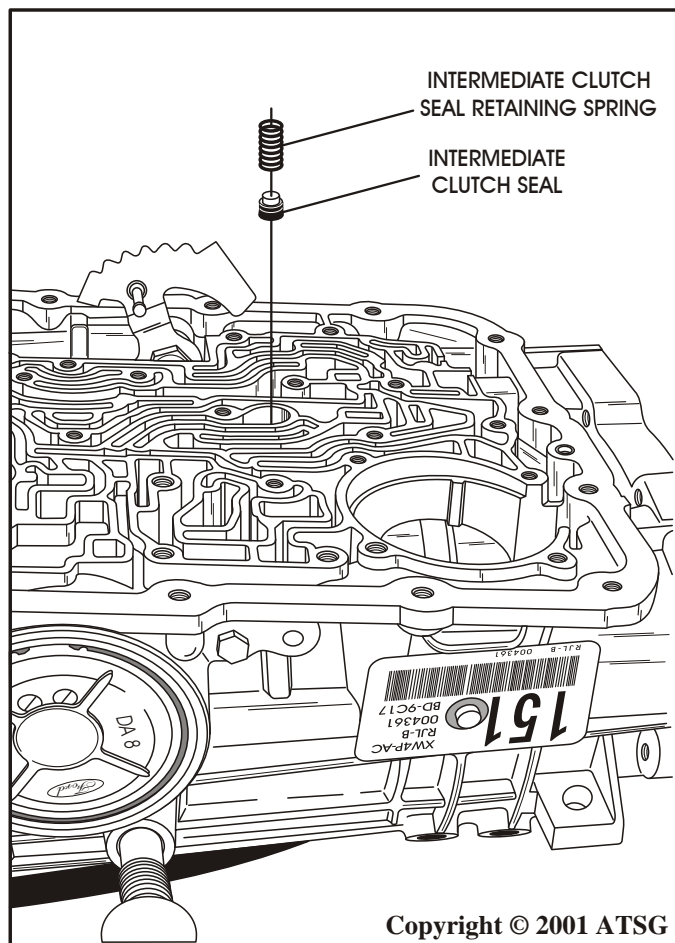

Figure 172
66. Install intermediate clutch seal and retaining spring into the transmission case cavity, shown in Figure 172.